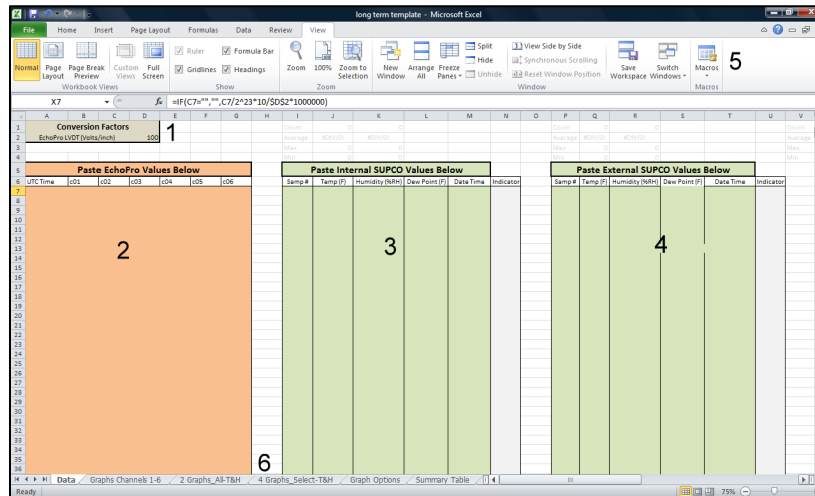

Figure 33: Long Term Template with Important Regions Numbered
10. Click the view tab on the top menu bar and choose the Macros button, which is annotated by the number 5 in Figure 33.
15. Click the view tab on the top menu bar and choose the Macros button, which is annotated by the number 5 in Figure 33.